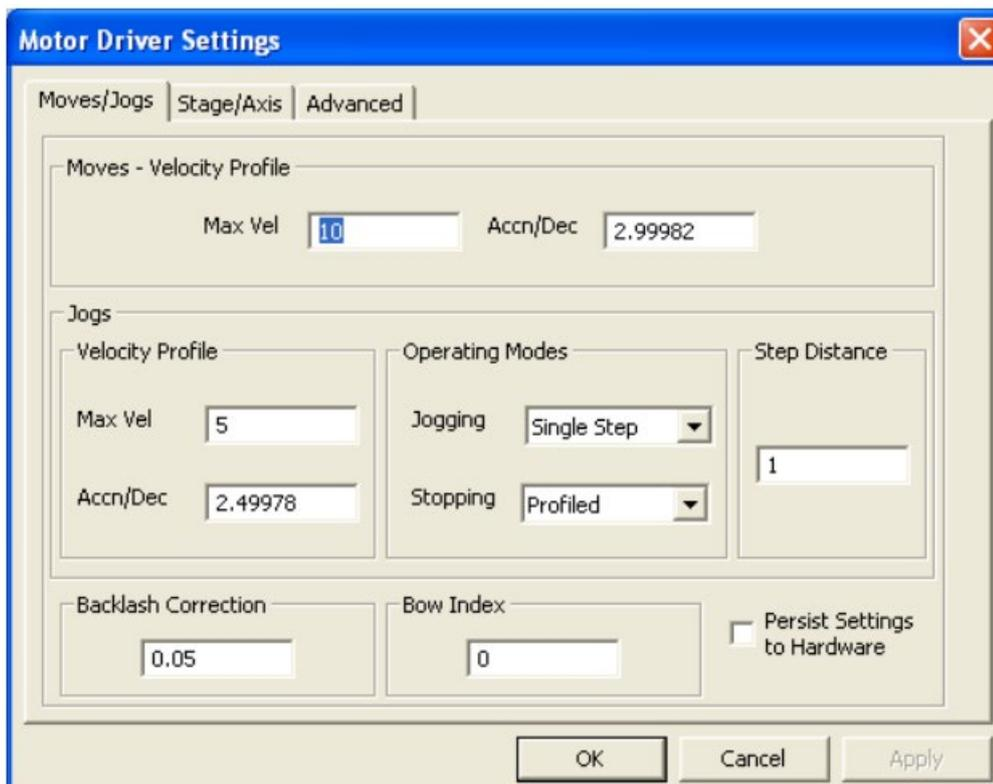

Figure 14 Settings Panel – Move/Jogs Tab
2. Select the Move/Jogs tab as shown in Figure 14.